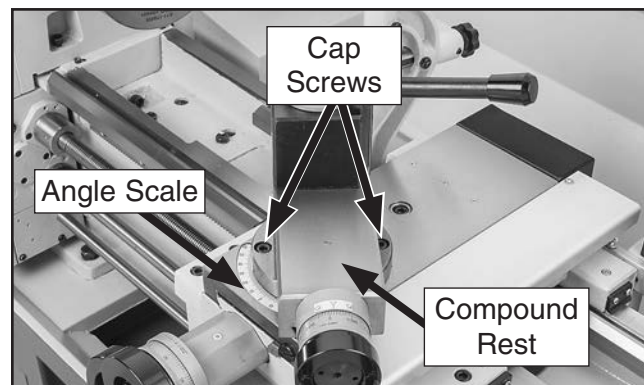

Figure 59. Compound rest angle adjustments.
1. Loosen two cap screws at base of compound rest (1 of 2 shown in **Figure 59**).